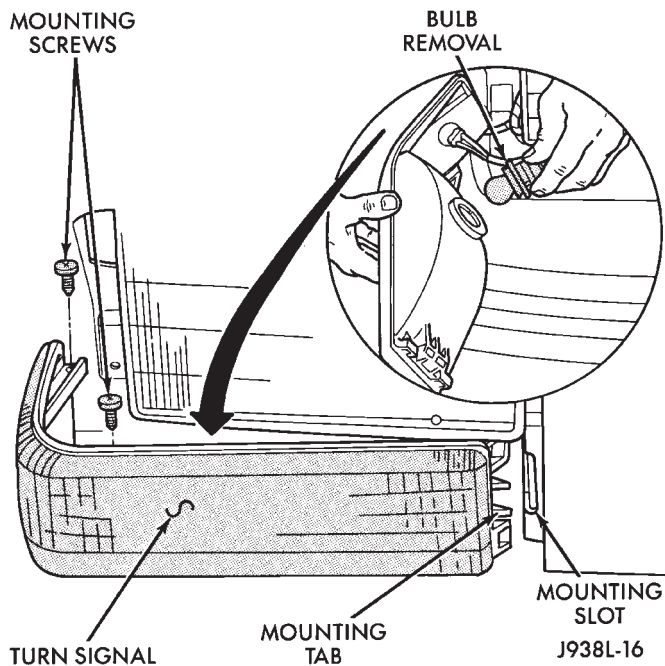

Fig. 7 Turn Signal And Side Marker
- (1) The parking lamp must be removed to get to attaching screws for this lamp.
- (2) Remove the two screws and slide lamp outboard to expose the bulb (Fig. 7).
- (3) To replace turn signal bulb, press in on bulb (1295na) and rotate 1/4 turn to remove.
- (4) To replace sidemarker bulb (194na) grasp and pull from lamp.
- (5) After replacing bulb, slide lamp into slot provided on inboard side of headlamp assembly. Replace two screws and replace parking lamp.